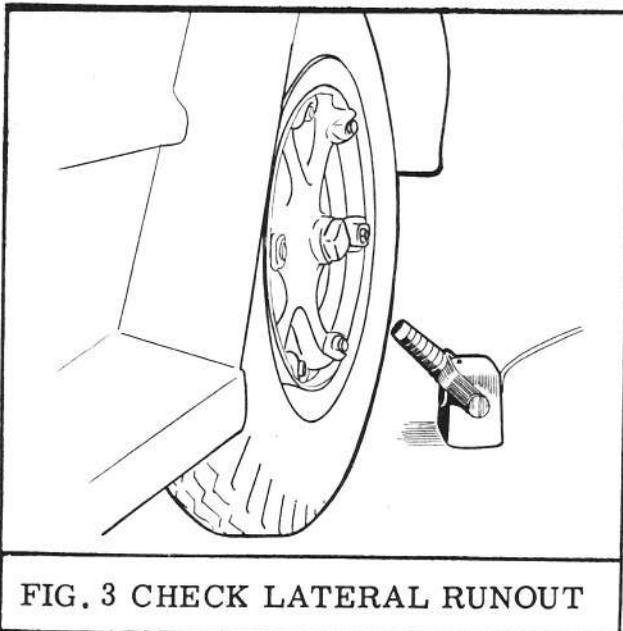

FIG. 3 CHECK LATERAL RUNOUT
6. Check for lateral runout. Position strobe light as shown in Figure 3 leaving 1/4" clearance between tire side wall and strobe light handle.